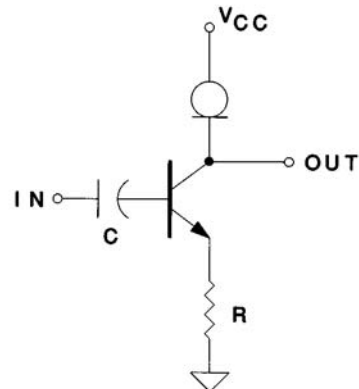

Figure 11. Collector Load
**Collector Load**—The voltage gain of a common emitter amplifier can be increased five to ten times by replacing the collector load resistor with a CLD (Figure 11). To maintain this gain the amplifier must be lightly loaded (high Z load) and must be prevented from bottoming or switching off.